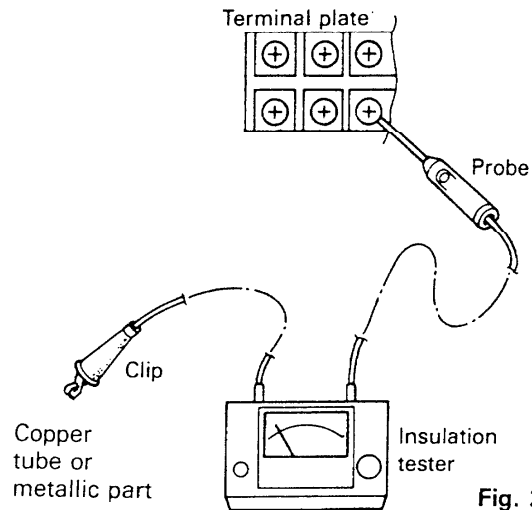

Fig. 2
Clamp the aluminum plate fin or copper tube with a lead clip of the insulation resistance tester and measure the resistance by placing a probe on ⑥, and then ⑦ on the terminal plate. (Fig. 2)
Clamp the metallic part of the unit with a lead clip of the insulation resistance tester and measure the resistance by placing a probe on ⑤, and then 2P-2 on the terminal plate. (Fig. 2)